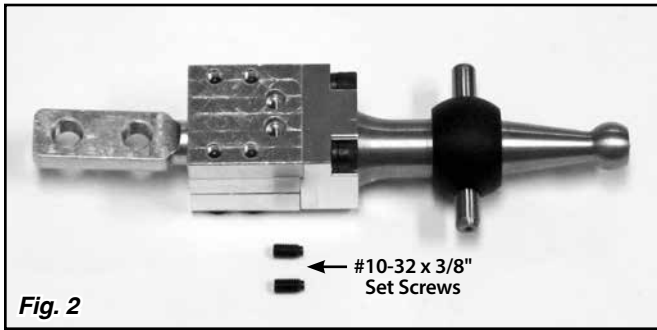
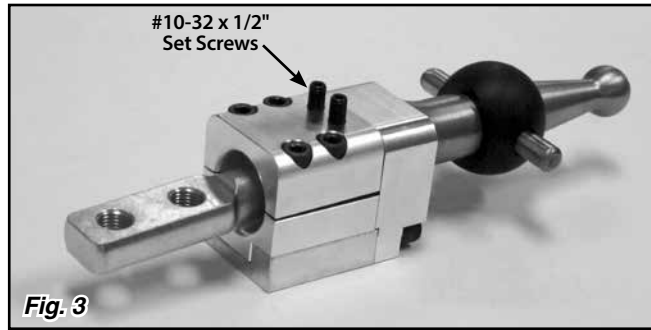

Fig. 2
Fig. 3
Step 1: Using a 3/32" Allen wrench, remove both of the #10-32 x 3/8" set screws from the holes in the back plate, and set them aside. Then, back out the #10-32 x 1/2" set screws in the main cap so that they protrude about 3/16" - 1/4", but do not remove. **Fig. 2 and Fig. 3**